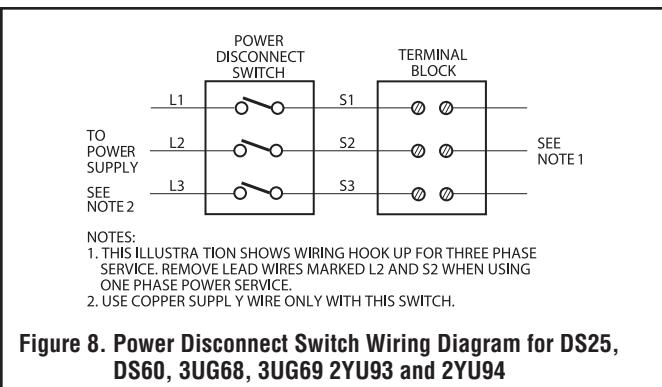

Figure 8. Power Disconnect Switch Wiring Diagram for DS25,
6. Refer to wiring diagram, Figure 8, for wiring procedure.